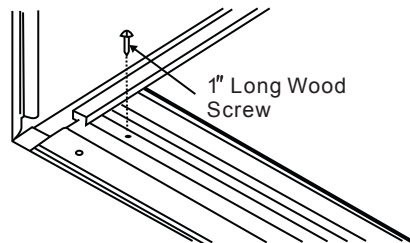

Fig.6
4. Secure bottom rail to wood frame with two large wood screws 1"(2.5cm) long using the two holes in the bottom of the channel resting on frame. (See Fig.6).